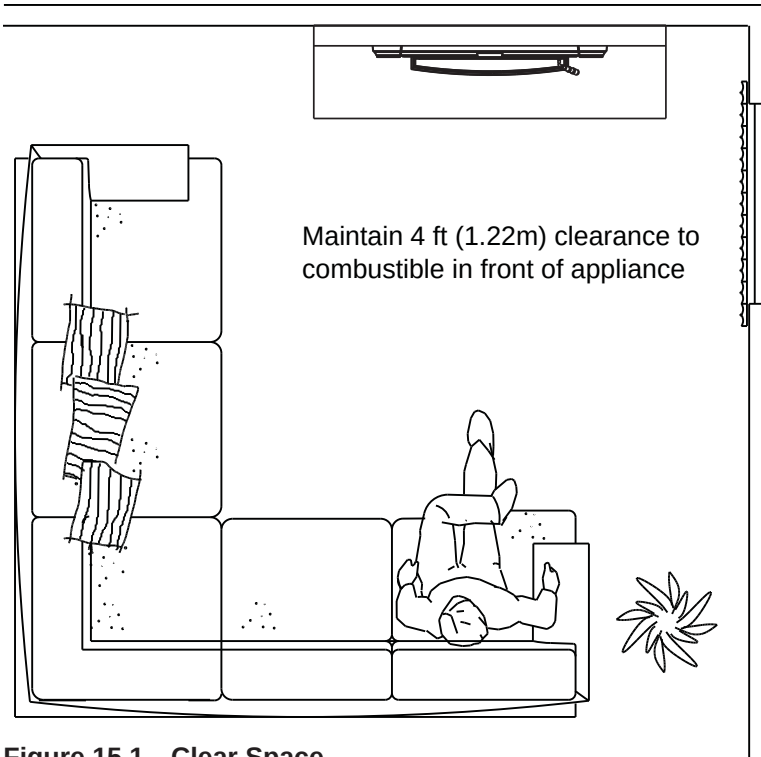

Figure 15.1 - Clear Space
- Do NOT place combustible objects within 4 ft (1.2 m) of the front of fireplace. **Figure 15.1.**